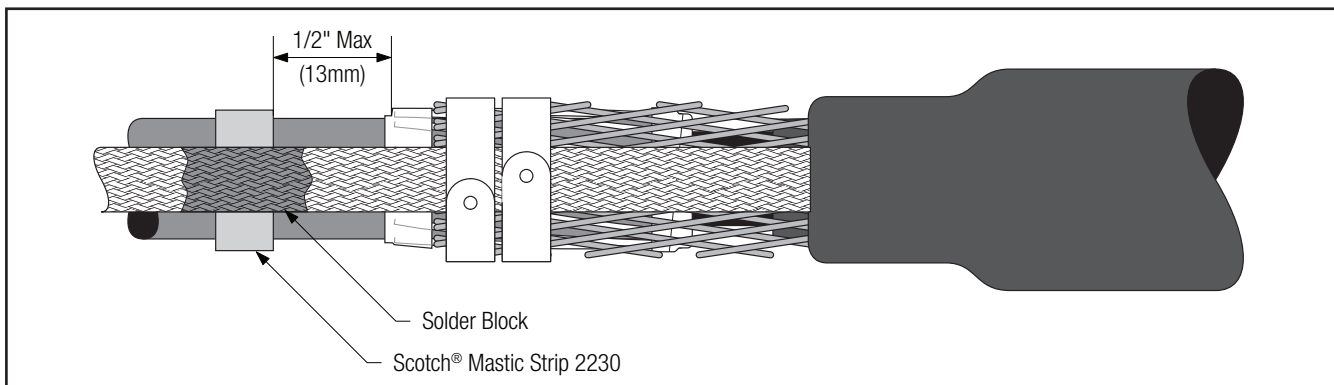

Figure 19
- 5.8 Place one mastic sealing strip on the cable jacket under the solder block of the ground strap no farther than 1/2" (13 mm) from the edge of the cut neutrals (*Figure 19*).